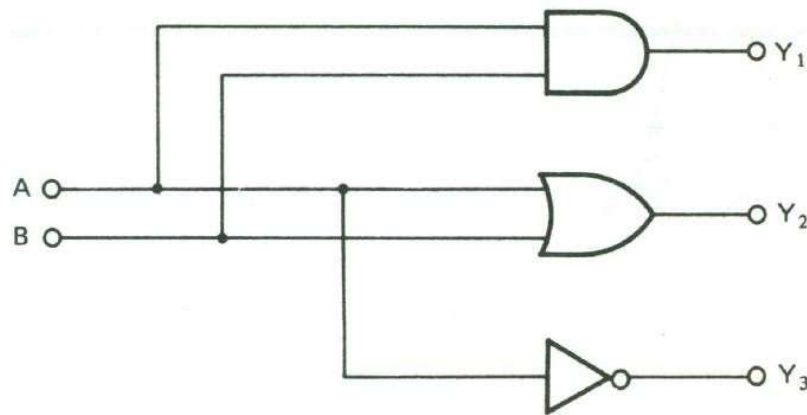

Figure 3.1: AND, OR and NOT gates
- 3.5.1 Place the components of the circuit shown in figure 3.1 on the trainer board and link the connections correctly.